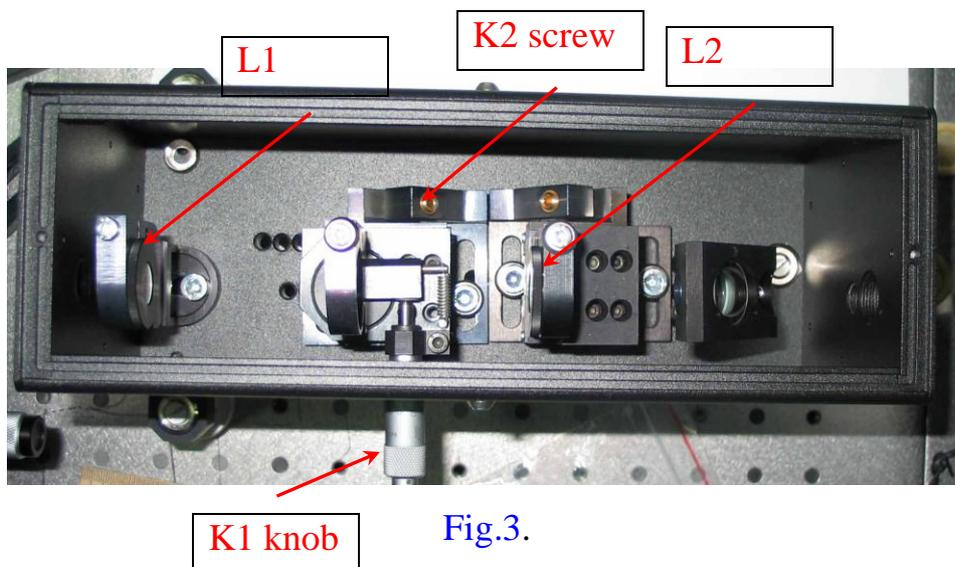

Fig.3.
- 3) Remove lenses L1 and L2 from their mounts (see Fig.3). **Be careful! Block the pump beam before the generator while removing L1 and L2!**
- 11) Adjust a knob K1 to get the maximal FH intensity (Fig.3).
- 12) Adjust a screw K2 (translation of FH crystal along the focused beam) to get more energy in FH signal (Fig.3).